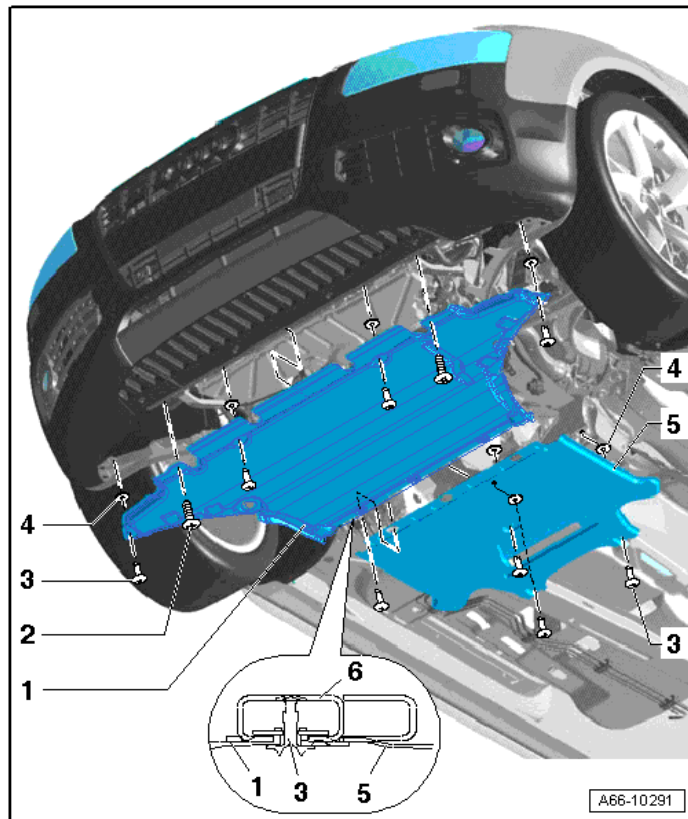

Figure 2. Front noise insulation (1).
2. Remove front noise insulation (Figure 2, 1).